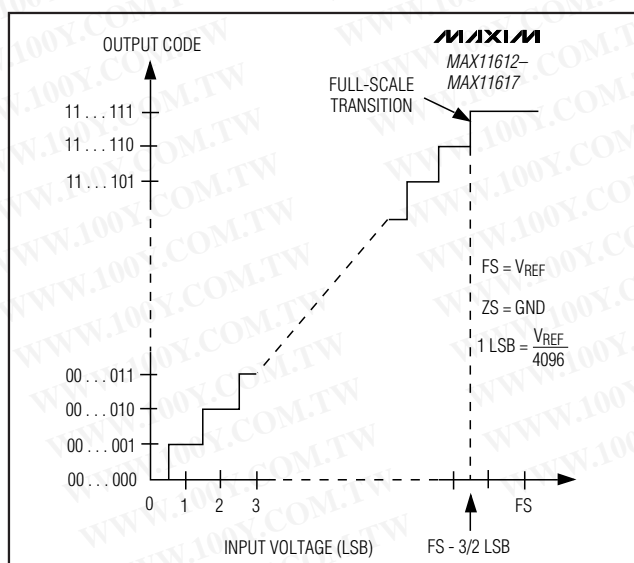

Figure 12. Unipolar Transfer Function
Output data coding for the MAX11612-MAX11617 is binary in unipolar mode and two's complement in bipolar mode with 1 LSB = ($V_{REF}/2N$) where N is the number of bits (12). Code transitions occur halfway between successive-integer LSB values. Figures 12 and 13 show the input/output (I/O) transfer functions for unipolar and bipolar operations, respectively.